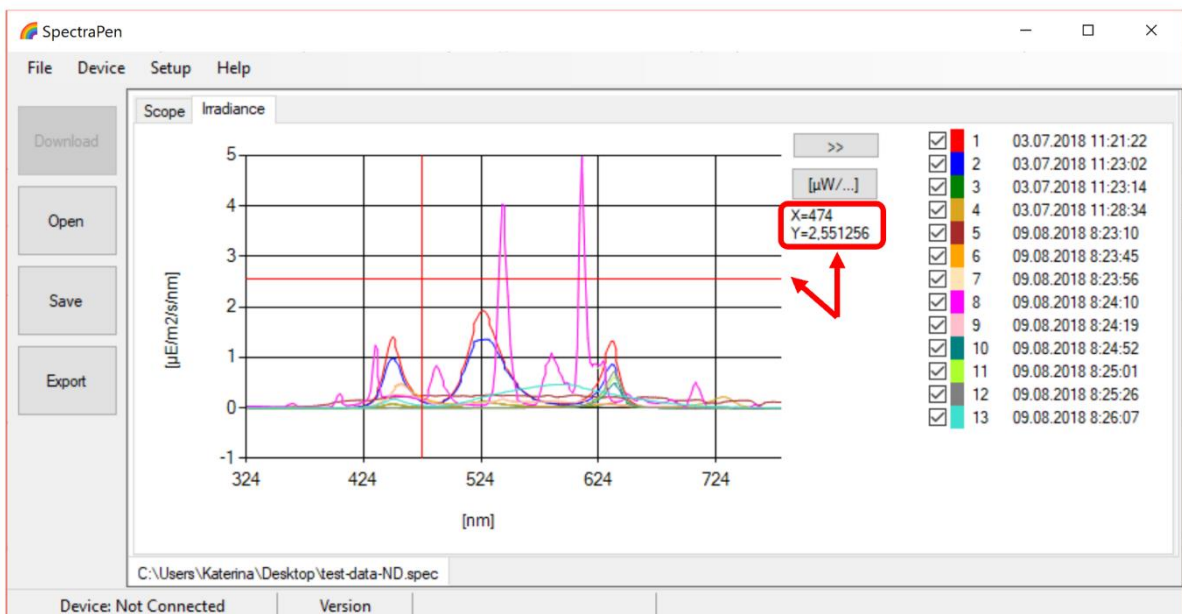

Fig. 30 Marker feature.
- In the graph **marker** feature is available, which enables display of the numeric values for wavelength and light irradiance for the selected wavelength of the scan (Fig. 30). Use the mouse to select the given point. In top right corner of the graph (red rectangle) is displayed exact value for the selected point on the x-axis and y-axis.